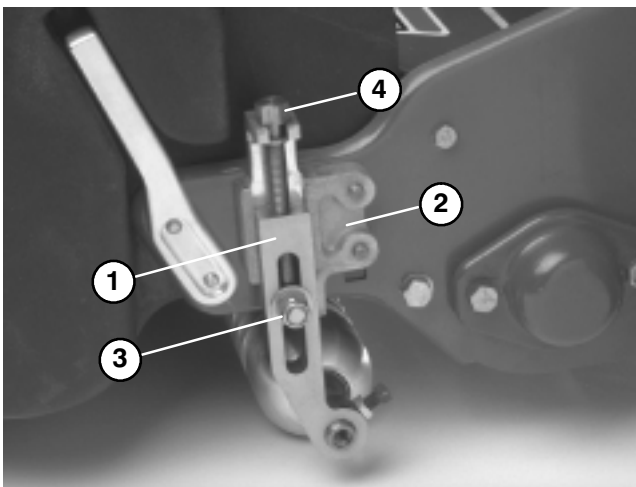

Figure 11
2. Loosen locknuts securing height-of-cut arms to height-of-cut brackets (Fig. 11).